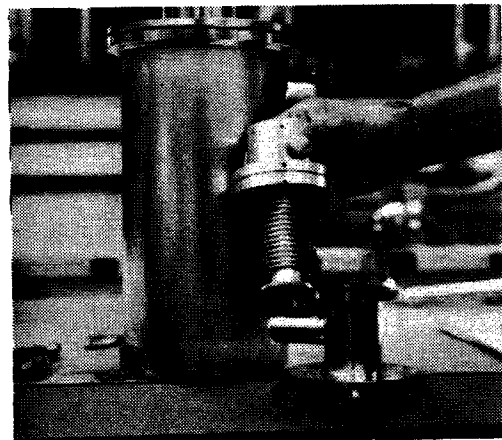

Figure 6-15. Lifting Out Pneumatic Actuator (Bonnet and Trim)
5. Using a 7/16-inch wrench, remove the four bolts securing the pump valve actuator to the valve body, backing them out evenly to avoid binding as the valve spring expands. Lift out the actuator (Figure 6-15). Wash the bellows and sealing disc with methanol and dry thoroughly. If the bellows is to be replaced, see paragraph 6-7.5.